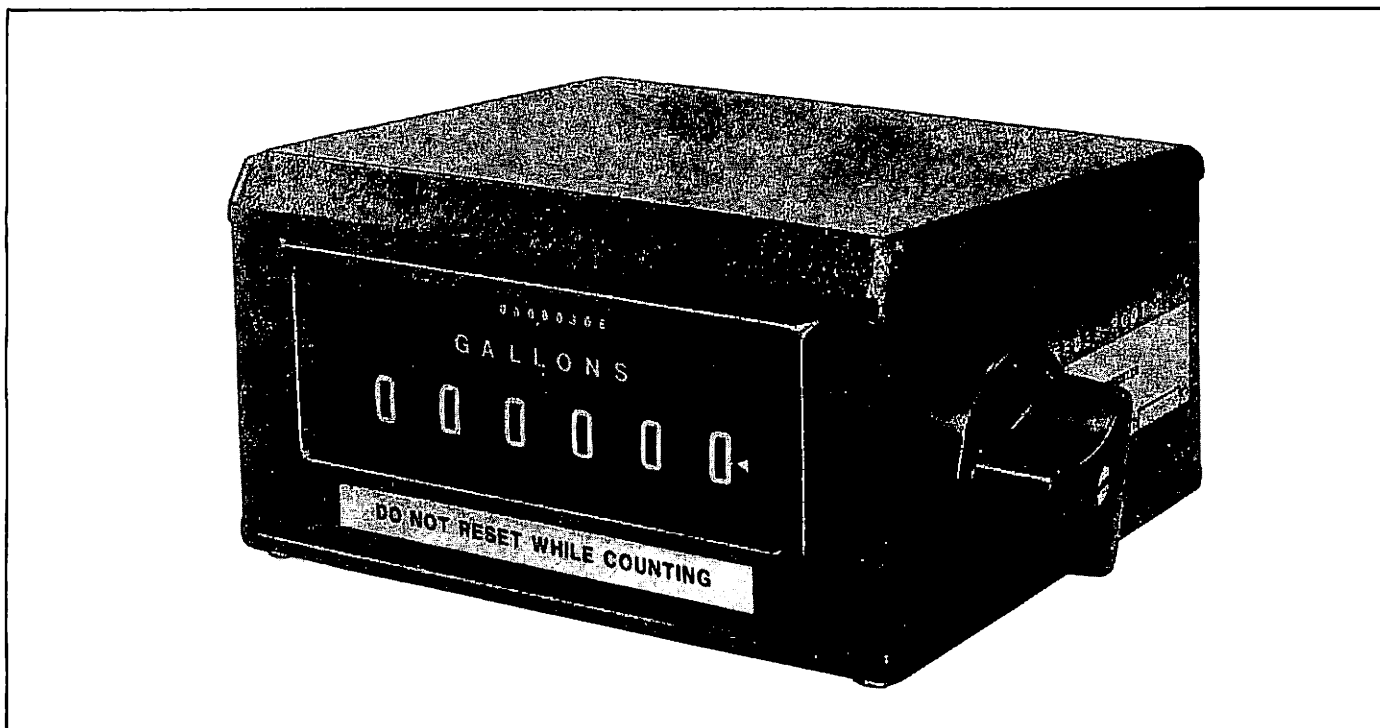

Figure 3. External View of Series 7886 High-Capacity Meter Register.
1. Physical. The Series 7886 High-Capacity Meter Register, Figure 3, displays a running account, final total and accumulated total of the quantity of liquid product delivery. Contained in a 4" x 10" diecast enclosure, individual delivery data is displayed on six 5/8" high figures while totalizer information is recorded on eight 1/8" high figures. Reset of the Meter Register is accomplished through a reset knob on the right-hand side of the unit.